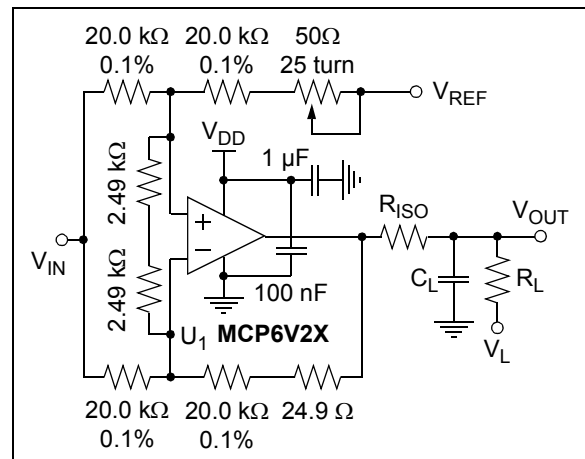

FIGURE 1-7: Test Circuit for Dynamic Input Behavior.
- Note 1:** These parameters were characterized using the circuit in Figure 1-7. In Figure 2-37 and Figure 2-38, there is an IMD tone at DC, a residual tone at 1 kHz, other IMD tones and clock tones.
The circuit in Figure 1-7 tests the op amp input's dynamic behavior (i.e., IMD, t_{STR} , t_{STL} and t_{ODR}). The potentiometer balances the resistor network (V_{OUT} should equal V_{REF} at DC). The op amp's common mode input voltage is $V_{CM} = V_{IN}/2$. The error at the input (V_{ERR}) appears at V_{OUT} with a noise gain of 10 V/V.